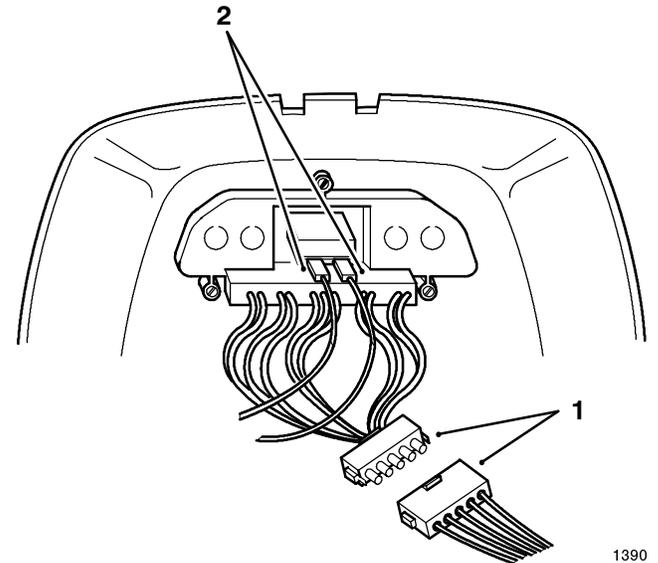

Figure 5
4. Push together the indicator light wire connector and the mating connector in the tractor wire harness (Fig. 5). If the tractor was equipped with an hour meter, push both wire connectors onto the terminals of the hour meter.